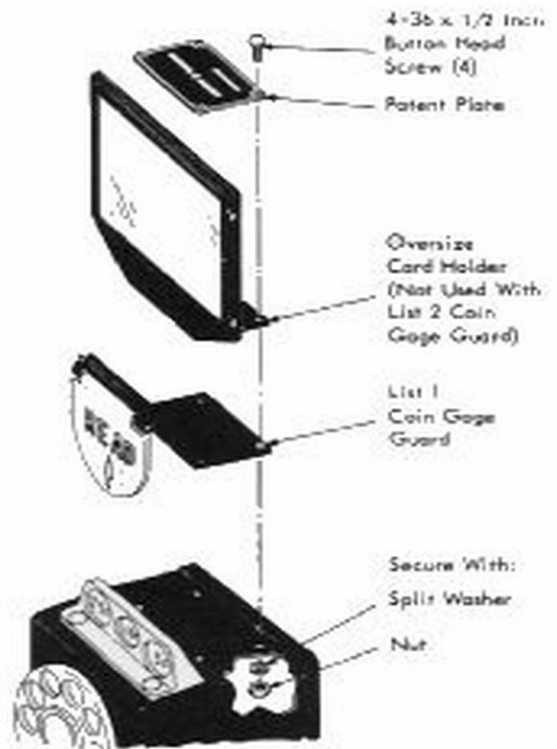

Figure 4. Mounting Sequence for List 1 Coin Gage Guard.
3.01 Figure 4 illustrates the sequence in which the List 1 coin gage guard, oversize card holder and patent plate should be mounted. To mount these three items, proceed as follows: